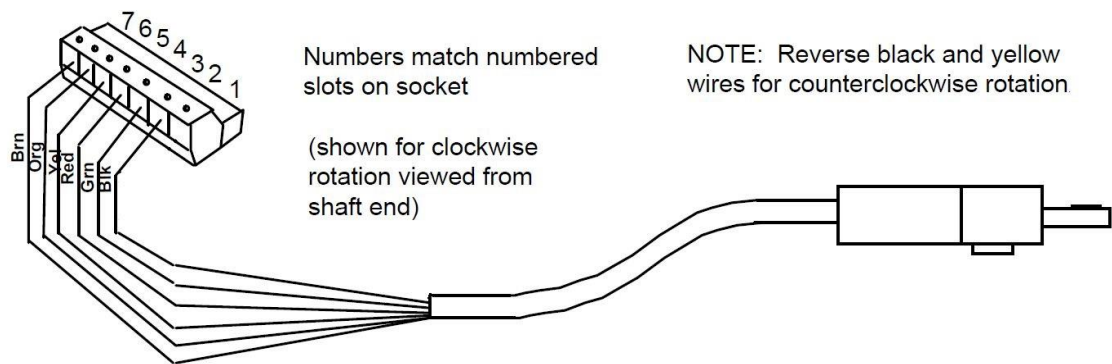

Figure 2-5. Wiring for resolver cable (see table below)
5. Attach the wires to the L-shaped connector as shown in Figure 2-5. Make sure you connect the black and yellow wires correctly based on the way your resolver will rotate—clockwise or counterclockwise. To connect a wire, find the correct slot and loosen the screw over that slot by turning it counterclockwise (see Figure 2-6). Strip the correct wire for this slot 1/4" (6.4 mm) from end. Insert bare wire into slot 90% of the way. Tighten the screw. Metal tooth inside slot will clamp down on the bare wire for a tight connection. Make sure the metal tooth is clamped down on the bare part of the wire, not on the insulation.
4. Attach the wires to the connector as shown in Figure 2-5. You will be wiring in parallel (#4 red to red, #5 yellow to yellow, etc.), so that when you are finished, you should have two wires of the same color connected to each terminal on TB105. To connect a wire, refer to Step 5 in "To wire the resolver". Also see Figure 2-6.